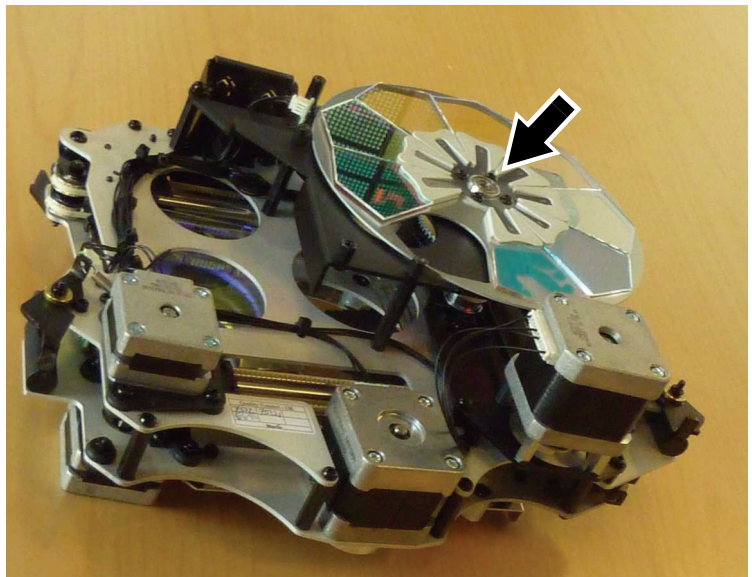

Figure 4
5. See Figure 4. Remove the Torx M4 x 20 screw (arrowed) from the center of the color wheel. Keep this screw for re-fastening the color wheel pulley to its shaft later.